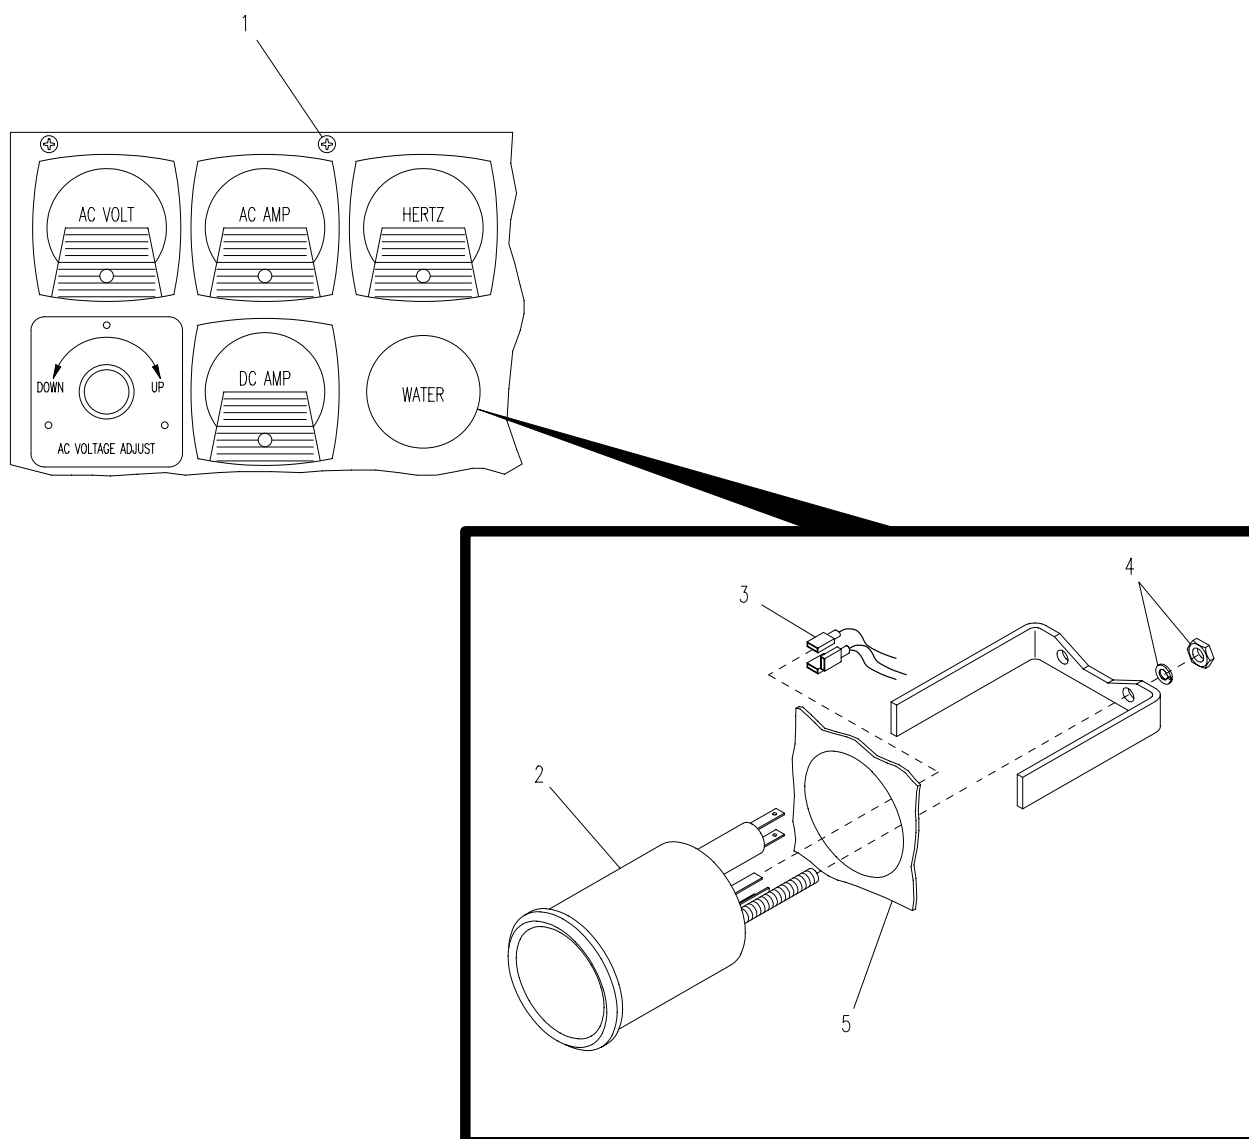

Figure 5-22. Water Temperature Gauge
- a. Remove ten screws, (caged nuts (SICPS), machine screws (JTACS and WIN-T)) (1, Figure 5-22) securing APU control unit cover to chassis and remove cover.
- b. At rear of gauge (2), identify and tag terminal leads (3).
- c. Disconnect terminal leads (3) from terminals by gently pulling apart.
- d. Remove two nuts and lock washers (4) securing water temperature gauge (2) to mounting bracket.
- e. Carefully pull gauge (2) through front of APU control unit front panel (5).
- f. Position new gauge (2) in APU control unit front panel (5) mounting hole.
- g. Secure gauge (2) to mounting bracket with two nuts and lock washers (4).
- h. Install terminal leads (3) on terminals and remove tags.
- i. Secure APU control unit cover (5) to chassis with ten screws, (caged nuts (SICPS), machine screws (JTACS and WIN-T)) (1).